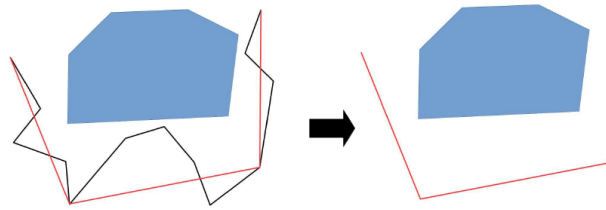

Figure 10: The Shortcut of Final Path
(1) My planners work very well for both head-in and parallel parking. And the mobile robot can avoid obstacles efficiently.
(2) Although I didn't implement RRT* to get optimal trajectory, I used another way to improve the traditional RRT so that the trajectory is not that messy while keep a good computational efficiency. RRT* algorithm requires to explore almost the entire map and do the rewiring in every loop which cause much more computational cost. But in reality, we just need a comparatively efficient trajectory instead of an absolutely optimal trajectory. I improved the RRT considering this trade-off.
(3) To further improve the planner, we can do the shortcut at the final stage of the planner which is shown in Figure 10. RRT always caused a zig-zag trajectory while actually we can do the shortcut to make the path smoother and more efficient.